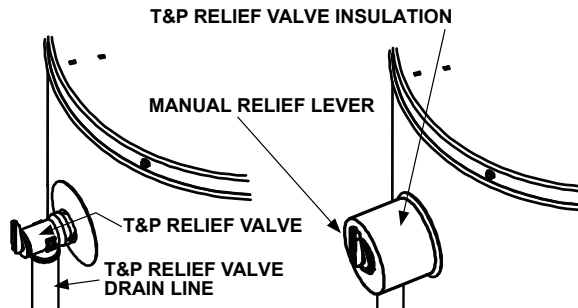

FIGURE 11.
1. Locate the temperature and pressure relief valve on the water heater (also known as a T&P relief valve). See Figure 11.
3. Spread the slit open and fit the insulation over the T&P relief valve. See Figure 11. Apply gentle pressure to the insulation to ensure that it is fully seated on the T&P relief valve. Once seated, secure the insulation with duct tape. **IMPORTANT:** The insulation or tape should not block or cover the T&P relief valve drain opening. Also, the insulation or tape should not block or hinder access to the manual relief lever (Figure 11).